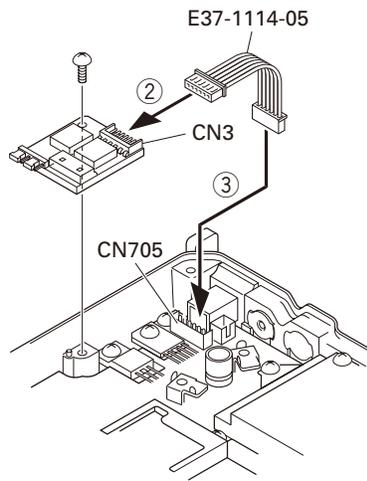

Fig. 2-2
3. Remove the 6-pin jumper connector inserted in the TX-RX unit (A/2) connector (CN705). (①)
4. Insert one side of the lead wire with connector (E37-1114-05) into the relay unit connector (CN3) (②) and the other side into the TX-RX unit (A/2) connector (CN705) (③).
5. Place the relay unit at the position shown in Figure 2-2 and secure it to the chassis with a screw. (④)
6. Remove the cap on the rear of the chassis by pushing it from the inside with your finger. (⑥)
7. Pass the 6-pin connector of the cable (E37-1113-15) through the chassis hole (⑤) and insert the bush into the chassis hole.
8. Rotate the bush of the cable 90 degrees counterclockwise as viewed from the rear of the chassis. (⑥)
9. Insert the 6-pin connector of the cable into the connector (CN2) of the KAP-2 relay unit. (⑦)